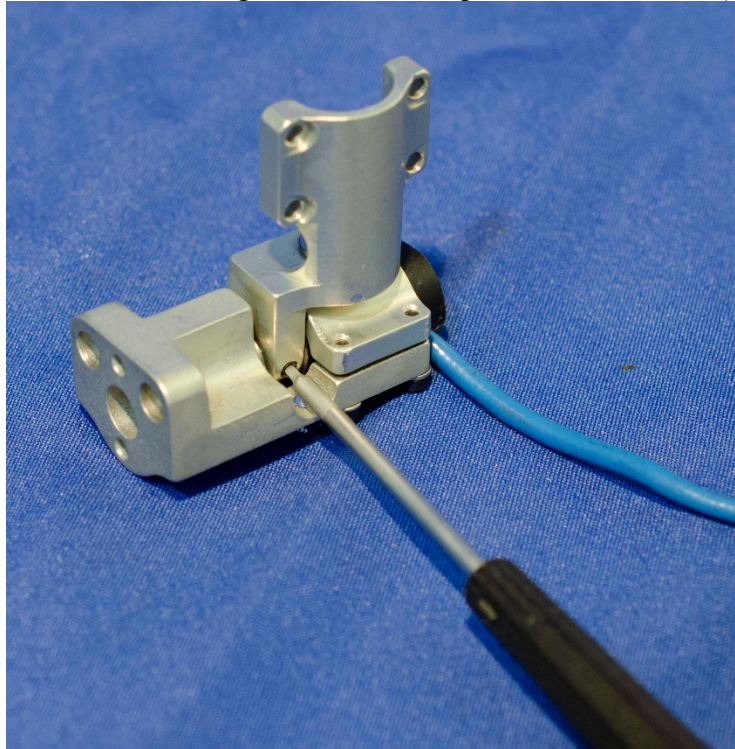

Figure 6-11. Tighten set screw on the Y-axis potentiometer
- 6.2.2.3 Assure that the Y-axis rotary potentiometer will not pass through a dead band when moved through its range of motion in the thorax. Rotate the shaft until the potentiometer output voltage is approximately 0 volts so that the potentiometer is near mid-range. Once this is complete, insert and tighten the M2.5 x 0.45 x 3 SSCP against the Y-axis potentiometer shaft (Figure 6-11).